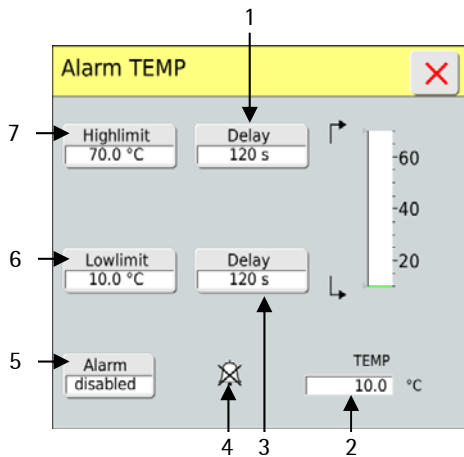
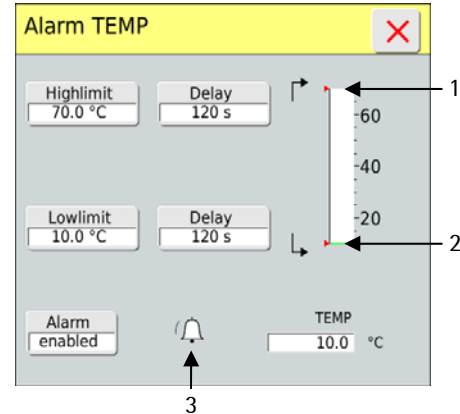

Fig. 29: "Alarm TEMP" menu
Fig. 30: "Alarm TEMP" menu
- After entering the alarm limits activate the alarm by pressing the "Alarm" key (Fig. 29, Pos. 5). Display shows "Alarm enabled". In addition the alarm limits are indicated by red triangles (Fig. 30, Pos. 1 and 2) in the bar graph.